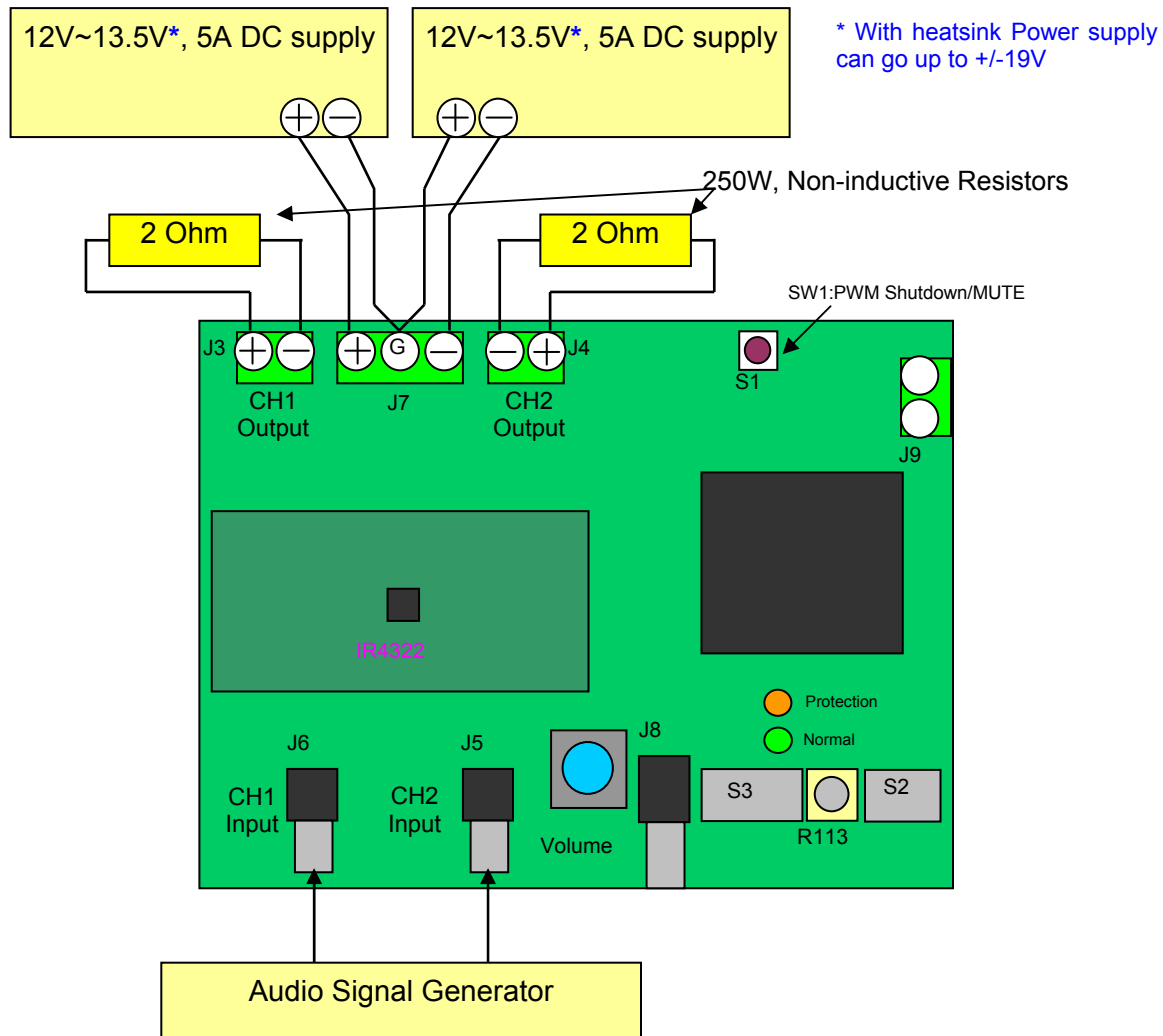

Figure 1 Typical Test Setup
1. Connect 2 $\Omega$ -250 W dummy loads to output connectors (J3 and J4 as shown on Figure 1) and parallel it with input of Audio Precision analyzer (AP).
6. Connect the dual power supply to J7. as shown on Figure 1